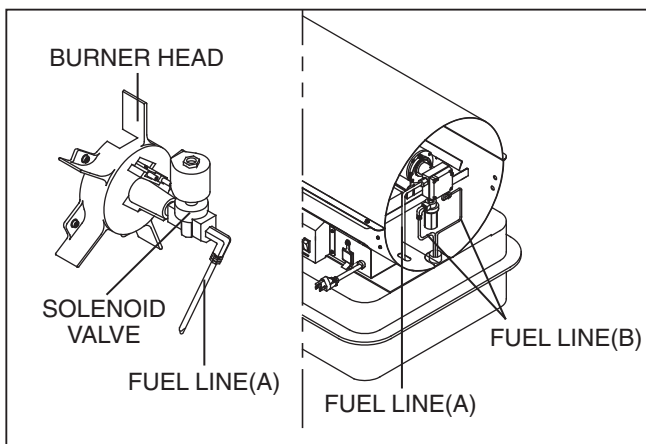

Figure 12. Tighten fuel line
- Use 1/4" wrench and tighten fuel lines(A) at solenoid valve and at pump. (See Figure 12)